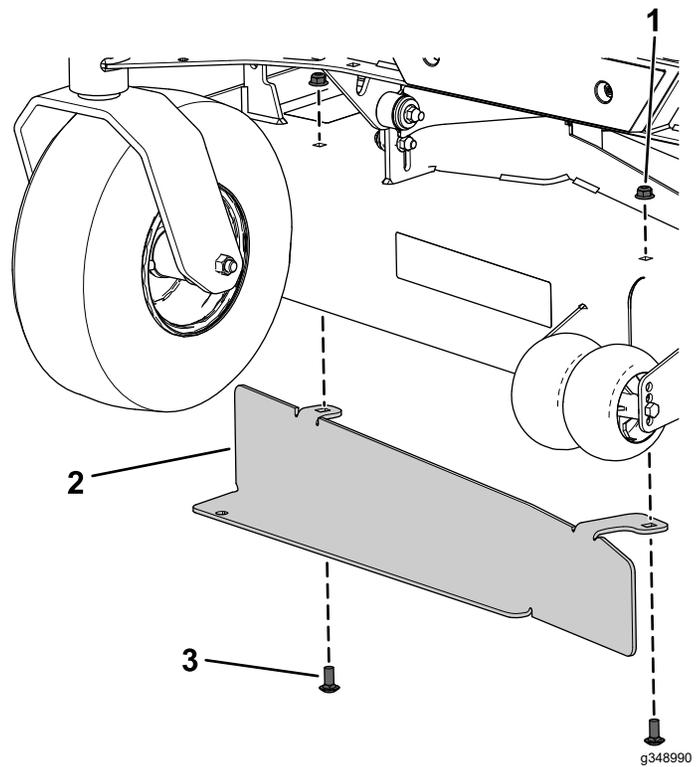
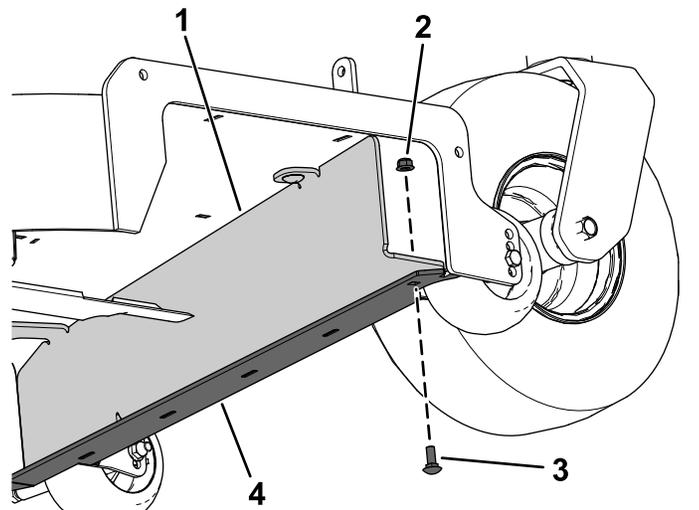

Figure 4
Figure 5
- Install the bagger baffle to the mower deck and deck bumper using 2 carriage bolts (3/8 x 7/8 inch), 2 locknuts (3/8 inch), 1 carriage bolt (5/16 x 7/8 inch), and 1 locknut (5/16 inch) as shown in Figure 4 and Figure 5.